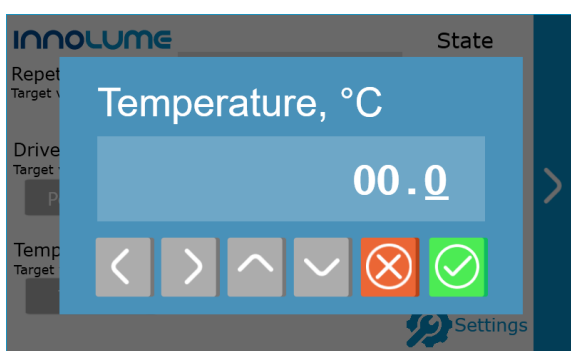

Figure 21 – Temperature setting
8. Tap on temperature value to set the laser diode temperature (fig. 21). Use the left and right arrows to select the digit to change, use the up and down arrows to change the value. Press  button to save the changes and exit menu. Press  button to exit menu without changes.